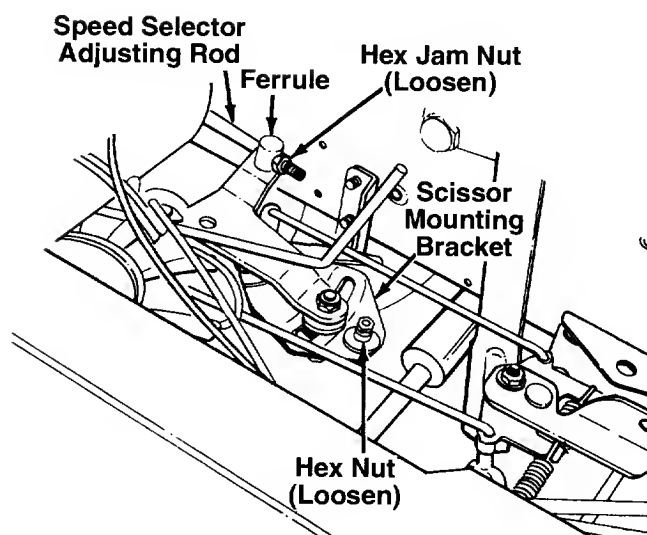

FIGURE 15.
3. Loosen the hex jam nut on the speed selector adjusting rod. See figure 15.
4. Loosen the hex nut on the scissor mounting bracket. See figure 15.